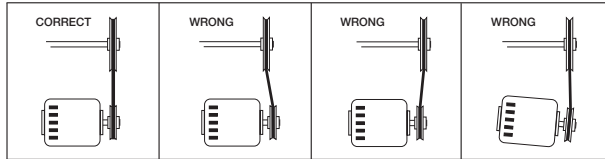

Figure 16
6. If adjustments are made, it is very important to check the pulleys for proper alignment. Misaligned pulleys lead to excessive belt wear, vibration, noise and power loss, see *Figure 16*.